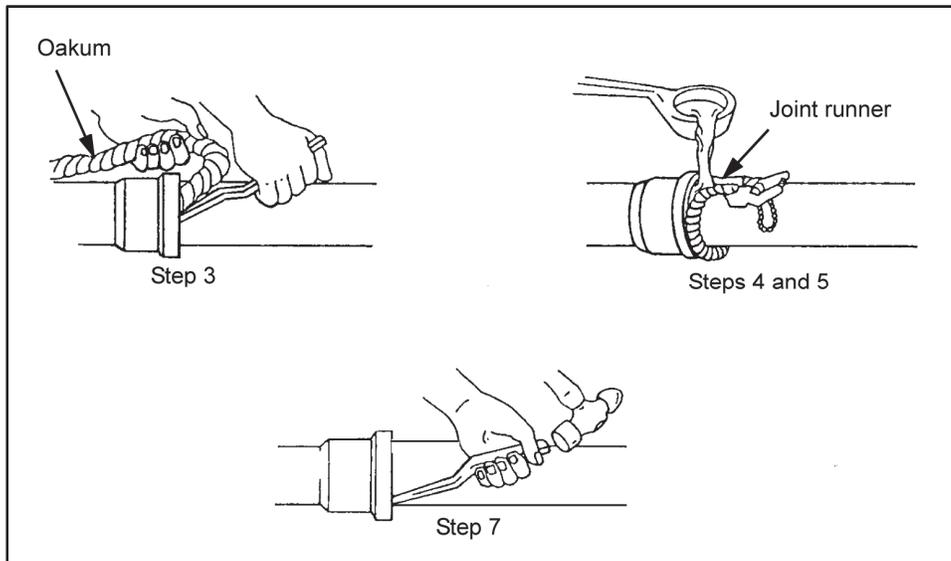

Figure 6-16. Horizontal lead joint
6-41. **Horizontal Lead Joint.** Use figure 6-16, page 6-14, and the following steps to make a joint.
- Step 3.** Pack strands of oakum into the hub completely around the pipe or fitting with a packing iron to within 1 inch of the hub's end (figure 6-16).
- Step 4.** Clamp the joint runner around the pipe or fitting (figure 6-16).
- Step 7.** Caulk the lead (figure 6-16).